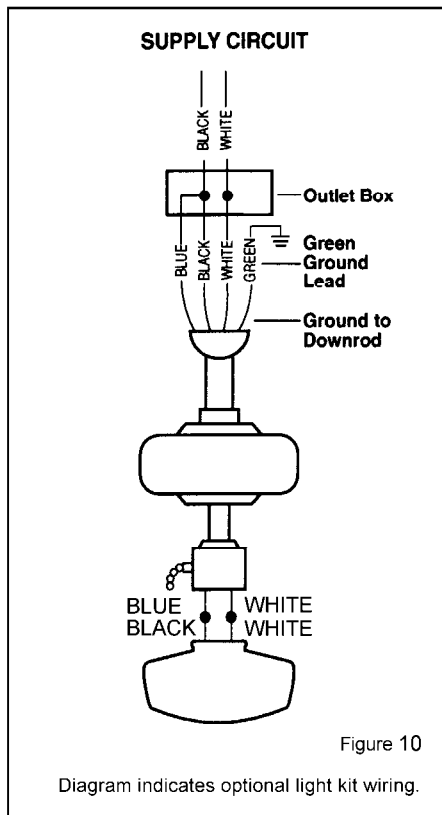

Figure 10
Step 3 Connect the fan light supply wire and the fan supply (black) wire to the black household supply wire as shown in Figure 10.